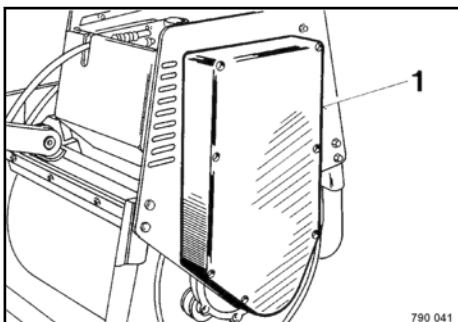

Fig. 77
Remove the guard (1) ↪ Fig. 77.